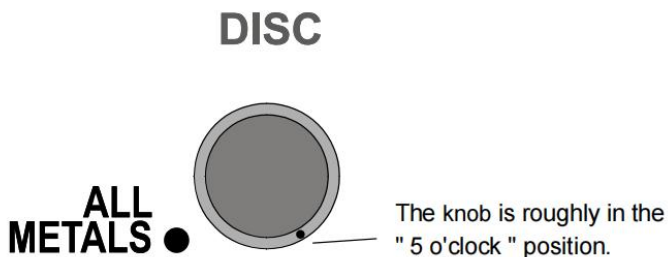

Figure 10. The ALL METALS/DISC Knob
5. To prevent the zinc penny from being detected, set the **ALL METALS/DISC** knob to about " 5 o'clock " (see Figure 10). By now, only the 25-cent silver quarter should be detected.